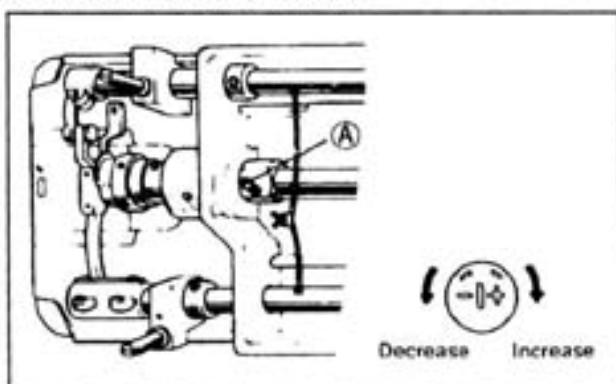

Fig.11
12. Adjustment of the hook lubrication (Fig.11):